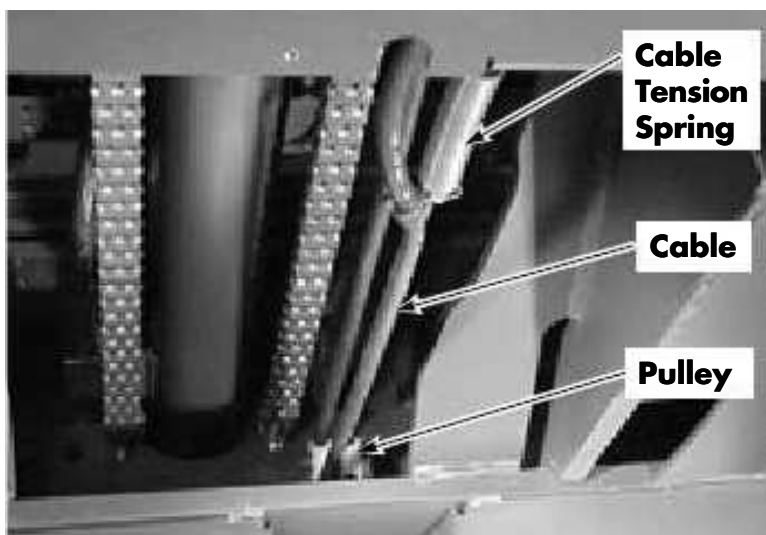

Figure 7-175. Electrical Over-the-Mast Cable
3. Remove electrical over-the-mast cable from bottom pulley on carriage. See Figure 7-175.
4. Disconnect cable tension spring from carriage. See Figure 7-175.
11. Lower carriage and install cable on bottom pulley of carriage. Install cable retainer spring. See Figure 7-175.